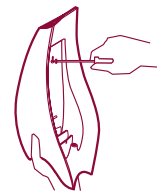

Fig. 5
- Insert the anchors in the wall and secure the battery-charger base with the screws. (fig. 5)